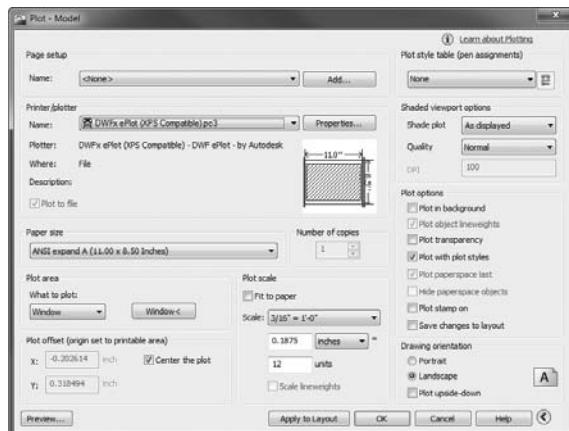

FIGURE 15.24 The Plot dialog box with the current settings
11. In the Plot Offset area, click the Center The Plot check box. Your dialog box should look like Figure 15.24.